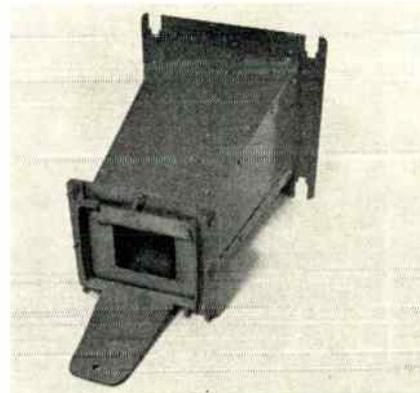

Fig. 3. Complete hood assembly before installation of reconstructed camera.
A hood was designed to hold the camera steady on the scope and to provide a shield against extraneous light. The hood had to be adapted to several types of scope, and has to contain some means to adjust focal distance. It was decided to construct it of sheet aluminum. The finished hood is shown in Fig. 3. The completed camera and housing are shown in Fig. 4.
- b. Carefully fold flaps on top, bottom, and side pieces as indicated by dotted lines. Note that flaps on end of each piece will fold outward when these pieces are assembled. (Study Fig. 3.)